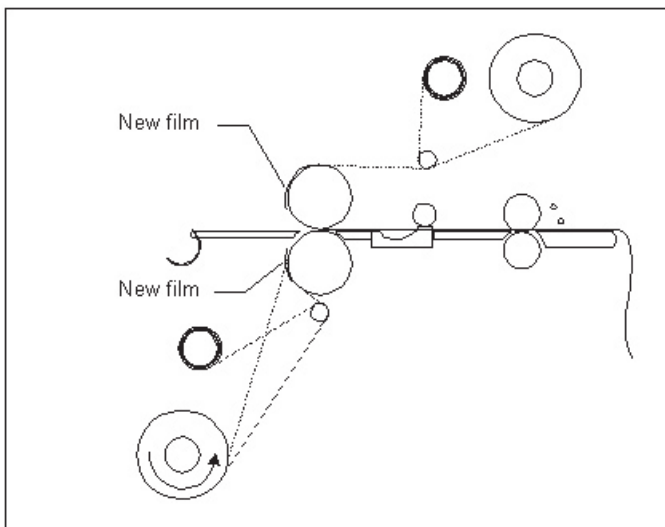

Fig 34
6. Tack the new film to the existing film on the heat rollers. For PSA film, attach the release liner to the rewind tube (Figure 34).